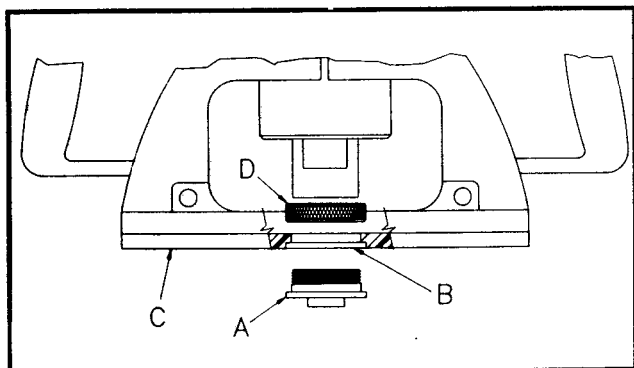
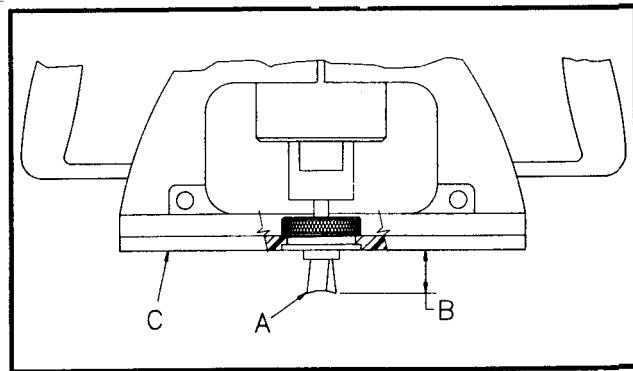

Fig. 4
Fig. 5
2. Insert templet guide, (A) Fig. 4, in hole (B), in router sub-base (C).
3. Install templet guide locknut (D) on templet guide and firmly tighten to lock templet guide in sub-base.
4. Insert dovetail bit, (A) Fig. 5, through templet guide into router collet.
5. Adjust router so dovetail bit projection (B) from bottom of router sub-base (C), is $19/32$ ".
Prepare router the same as for 1/2" half-blind dovetails except install 42054 templet guide, 43639 bit and adjust depth of cut (B) Fig. 5, to 5/8".